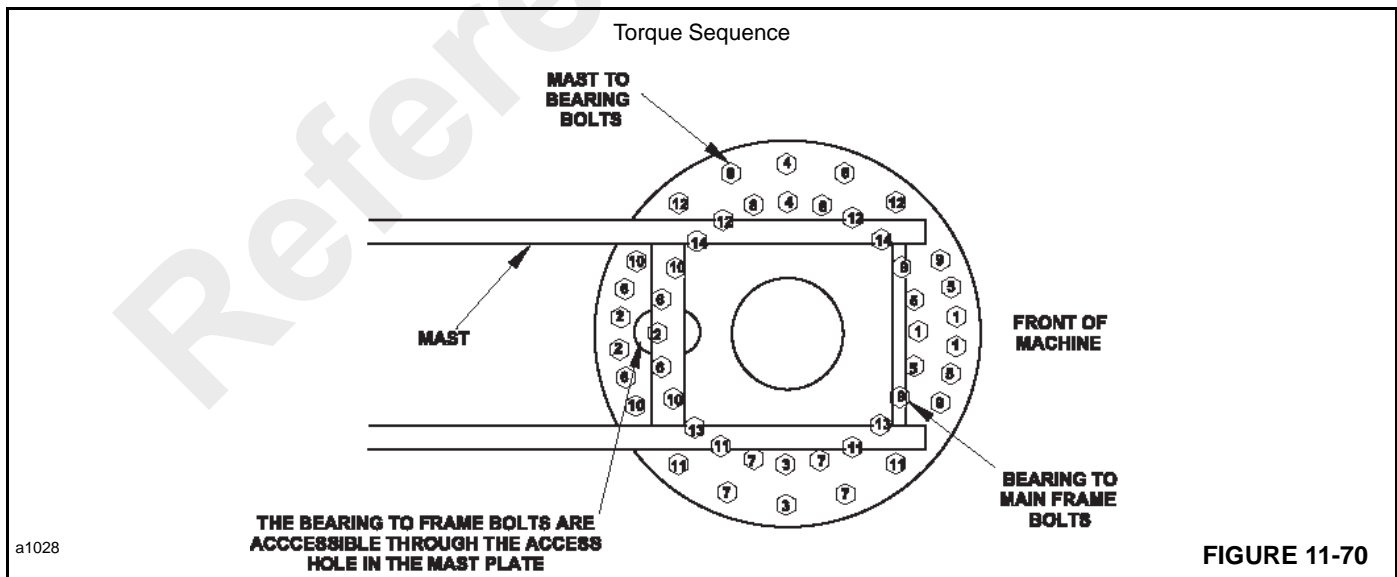

FIGURE 11-70
Use the torque sequence shown in Figure 11-70 when checking the torque on the bolts.
3. Install the 24 capscrews (31) and structural washers (6) to fasten the mast bearing (30) to the bearing plate.
4. Figure 11-70 shows the order for tightening the capscrews. Each capscrew must first be tightened to a torque of 384 Nm (282 lb-ft) and then loosened a small amount. Next, tighten the bolts again to a torque of 384 Nm (282 lb-ft).
6. With a hoist, lower the mast into position over the mast bearing. Install 22 capscrews (18) and structural washers (19).
7. Figure 11-70 shows the order for tightening the bolts. Each bolt must first be tightened to a torque of 245 Nm (180 lb-ft) and then loosened a small amount. Next, tighten the bolts again to a torque of 245 Nm (180 lb-ft).